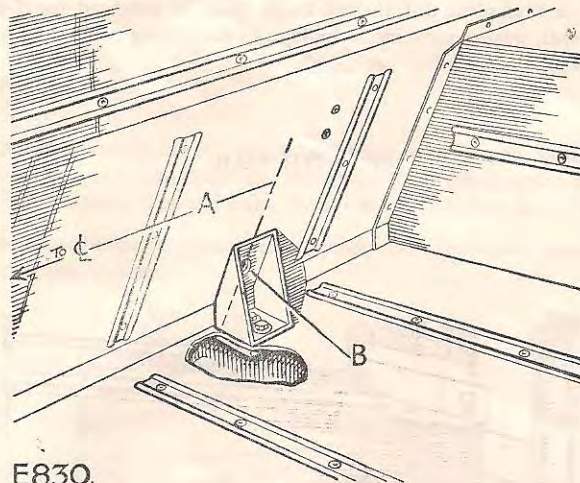

Fig. 8. Bulkhead gusset in position. R.H. illustrated.
5. Mark off a centre line of vehicle on body floor, adjacent to seat bulkhead—then mark a position $10\frac{1}{4}$ in. (260 mm) from the centre toward body side, as shown in Fig. 8.